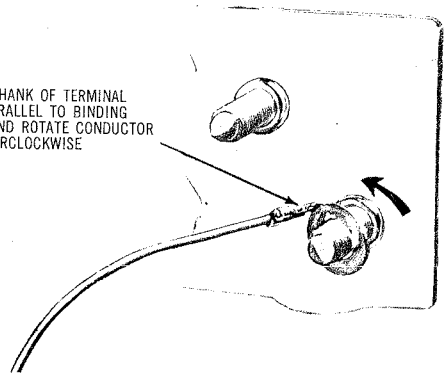

Fig. 20—Removing Binding Post Leads
- (1) Remove the binding post nut and washers.
- (2) Remove the old lead as illustrated in Fig. 20.